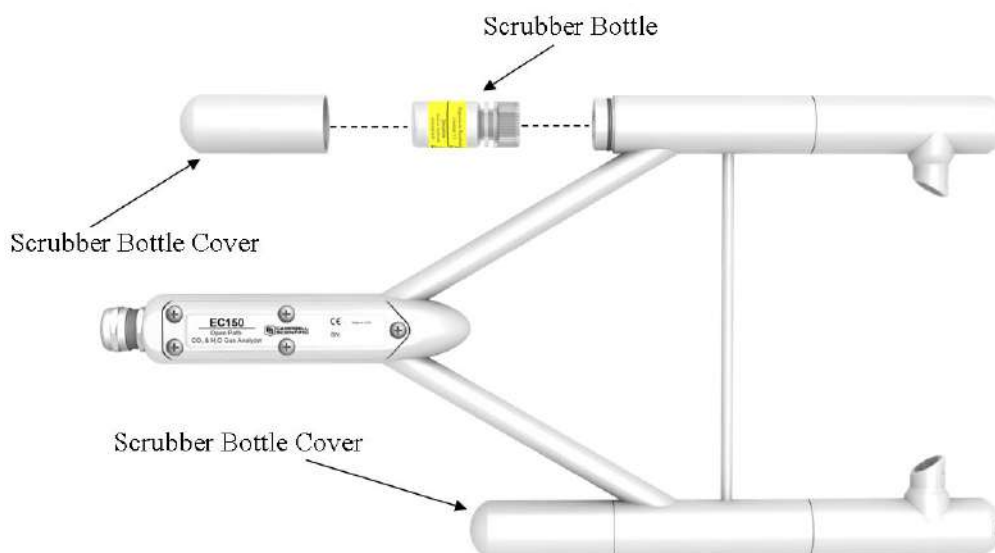

FIGURE 8-2. Replacing the desiccant and CO₂ scrubber bottles (replacement bottles purchased in or after July 2017 may appear different than in the figure)
If more than one year has passed since replacing the desiccant/scrubber or if the zero-and-span readings have drifted excessively (see Section 7, *Zero and Span* (p. 26)), the desiccant/scrubber bottles within the EC150 analyzer head should be replaced. FIGURE 8-2 gives the details needed for the following steps.
2. Remove the EC150 chemical bottles from inside the covers, and replace them with new bottles (pn 32897) with the lid of the bottle pointing toward the snouts of the analyzer (see FIGURE 8-2).